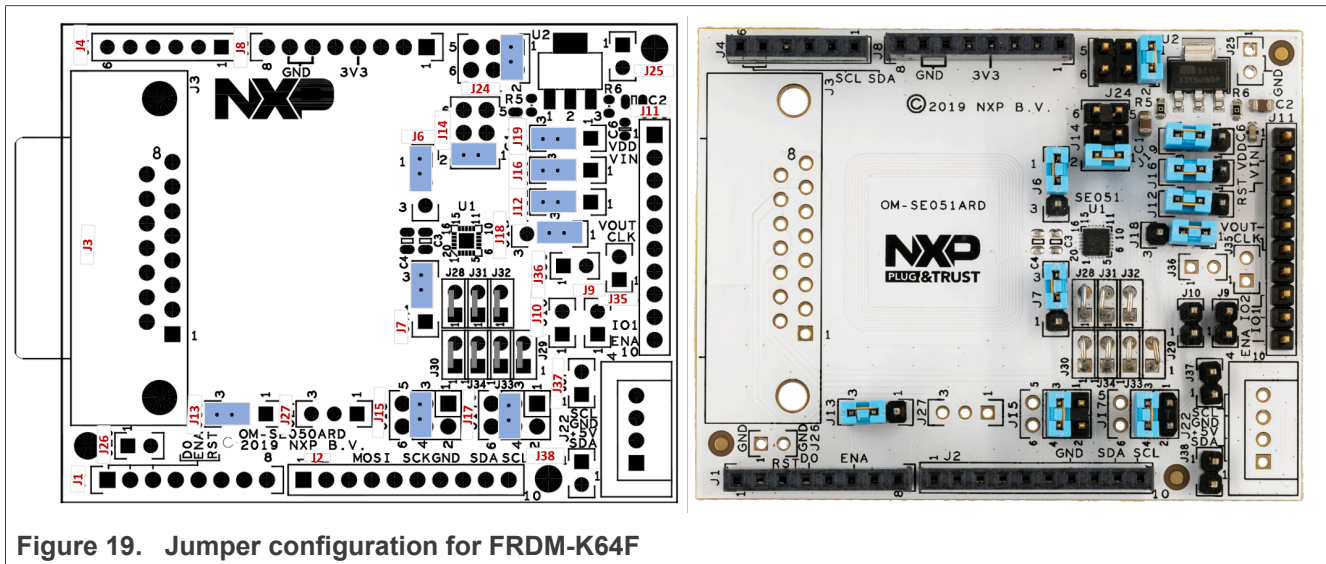

Figure 19. Jumper configuration for FRDM-K64F
The OM-SE051ARD boards have jumpers that allow you to configure the I2C interface of EdgeLock SE051 secure elements via the Arduino header. Configure the jumper settings as shown in Figure 19 to enable this option.
**Note:** Refer to Figure 19 for OM-SE051ARD jumper configuration.